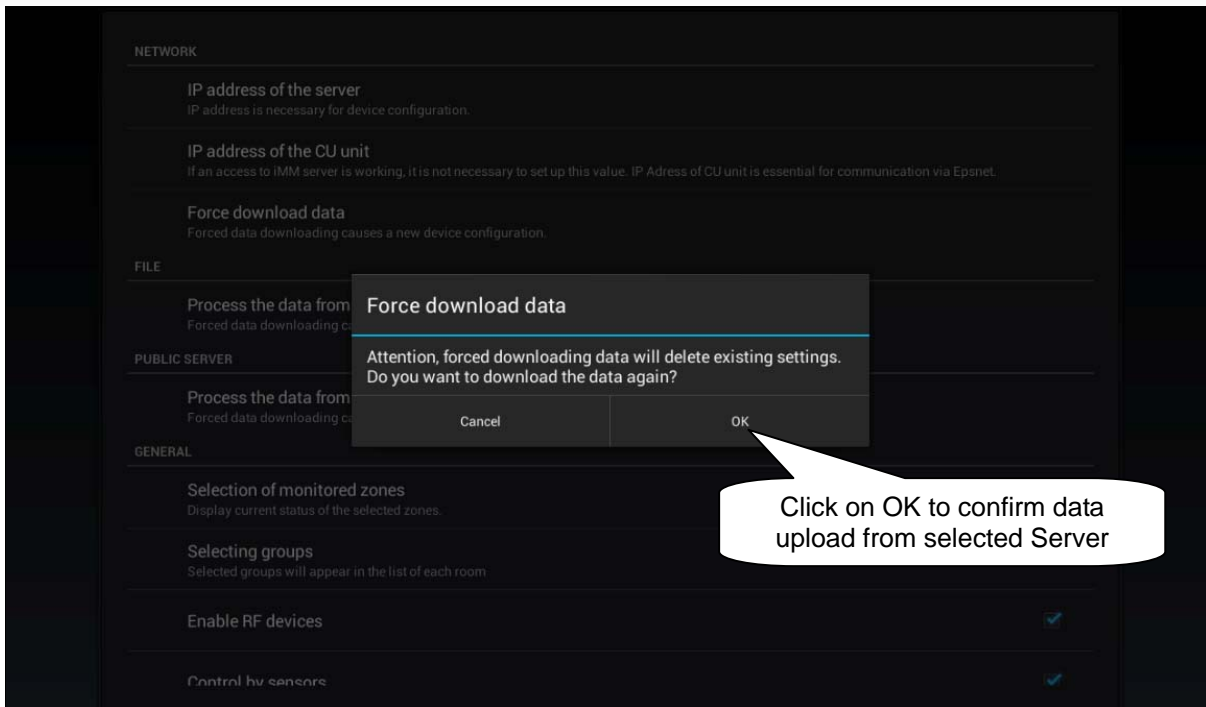

Figure 5 Enforce data download
- a) The next step is **Enforce data download** (Figure 5). You will receive a notice saying that the new data will overwrite currently downloaded data even if enforcing the data download runs for the first time. Confirm by "OK". In virtual server, the button "Enforce data download" is not used, the button "Process data from file" is used instead. **iHC application can be run to control iNELS elements even without own iMM Server – read more in Chapter 7.**